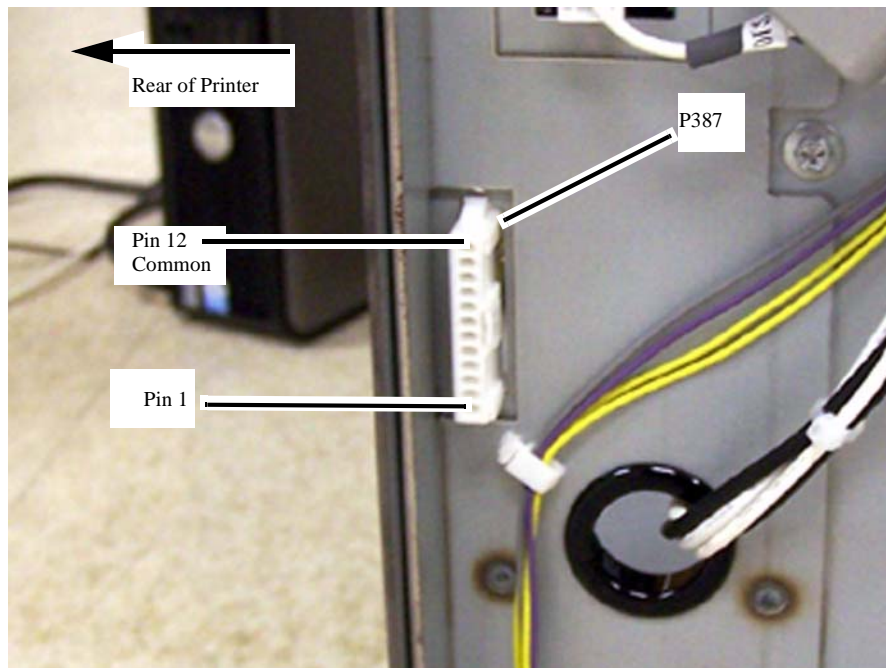

Figure 1 P387
7. Connect the negative lead of a multimeter to pin 12 of P387 (Figure 1).